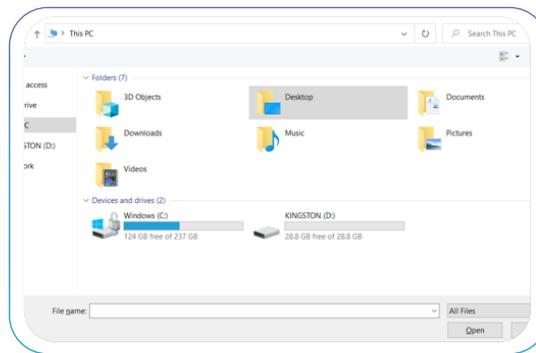

Figure 15. Uploading an image file – “Open” Dialog
- A standard Windows “Open” dialog displays (**Figure 15**).